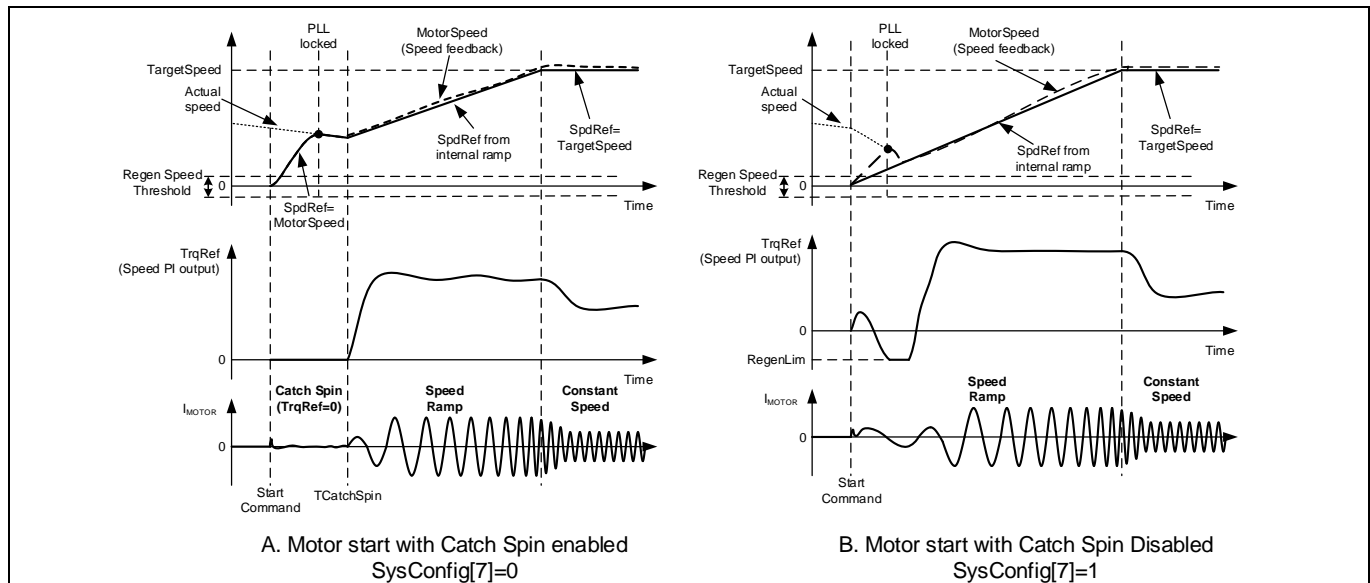

Figure 17 Forward Catch Spin - Motor start with/without catch spin
If the motor is spinning in the same direction as desired, then the catch spin sequence is termed as 'Forward Catch Spin'. Figure 17 (A) shows an example for 'Forward Catch Spin'. In this example, at the start command the motor is already spinning (in the desired direction). During the catch spin sequence, no motoring current is injected. After the catch spin time has elapsed, assuming the flux PLL locks to the actual motor speed, the motor speed at that instance becomes initial speed reference and starting point for speed ramp reference. The motor continues to accelerate or decelerate, following the speed ramp reference to reach the set target speed.
If catch spin is disabled, normal speed control starts immediately after the start command, without waiting for PLL to be locked. Usually the control would still be able to start a spinning motor, but motor speed may not increase/decrease seamlessly. As shown in Figure 17 (B), after the start command, the actual motor speed is higher than speed reference (SpdRef). Hence, the motor is decelerated (using regenerative braking) to force the motor to follow the speed reference (SpdRef). As the speed of the motor is higher than Regen Speed Threshold (RegSpdThr), the negative torque injected in the motor to achieve deceleration is limited by the value in RegenLim parameter. Once the motor speed matches the speed reference, the motor starts accelerating, following the speed ramp reference to reach the set target speed.